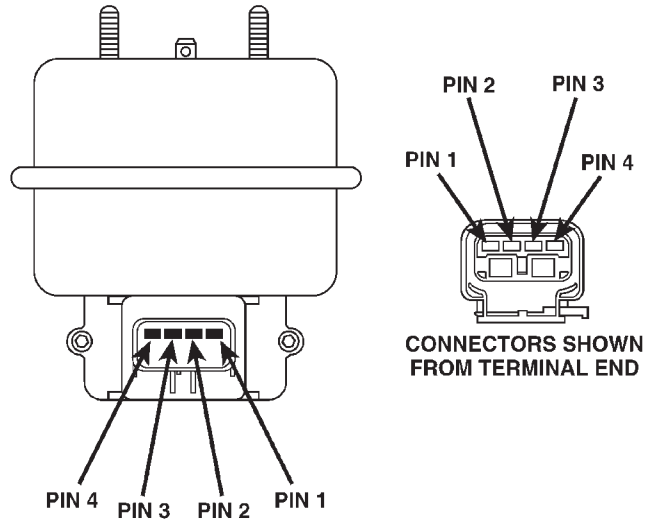

Fig. 3 Servo Harness Connector
- (1) Turn ignition switch to the ON position without starting engine. Activate speed control ON switch.
- (2) Disconnect the four-way electrical connector and the vacuum harness at the servo (Fig. 3).
- (3) Connect a jumper wire from Pin 3 of the servo to Pin 3 of the wire connector.
- (4) Ground Pins 2 and 4 in the servo. Do not connect pin 1.
- (5) Connect a hand held vacuum pump to the vacuum nipple and apply 10 - 15 inches of vacuum.
- (6) If servo pulls cable, replace servo.
- (7) Ground Pin 1 on servo.
- (8) Check that the throttle cable pulls in and holds as long as the vacuum pump is connected. After one minute, check if cable is still holding. If cable does not hold replace the servo.
- (9) Disconnect jumper from pin 3. Cable should return to rest position. If not, replace servo.
- (10) Connect 4 way electrical connector and vacuum harness to servo.